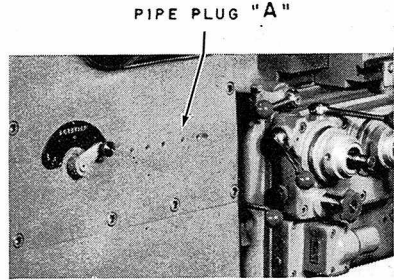

Figure 49A
2. Remove $\frac{1}{8}$ " pipe plug from selector valve line. This plug is one of six and second to the left in a horizontal line on the lower face of the shifter bracket (Figure 49A). Insert a 500 p.s.i. pressure gage in this hole.